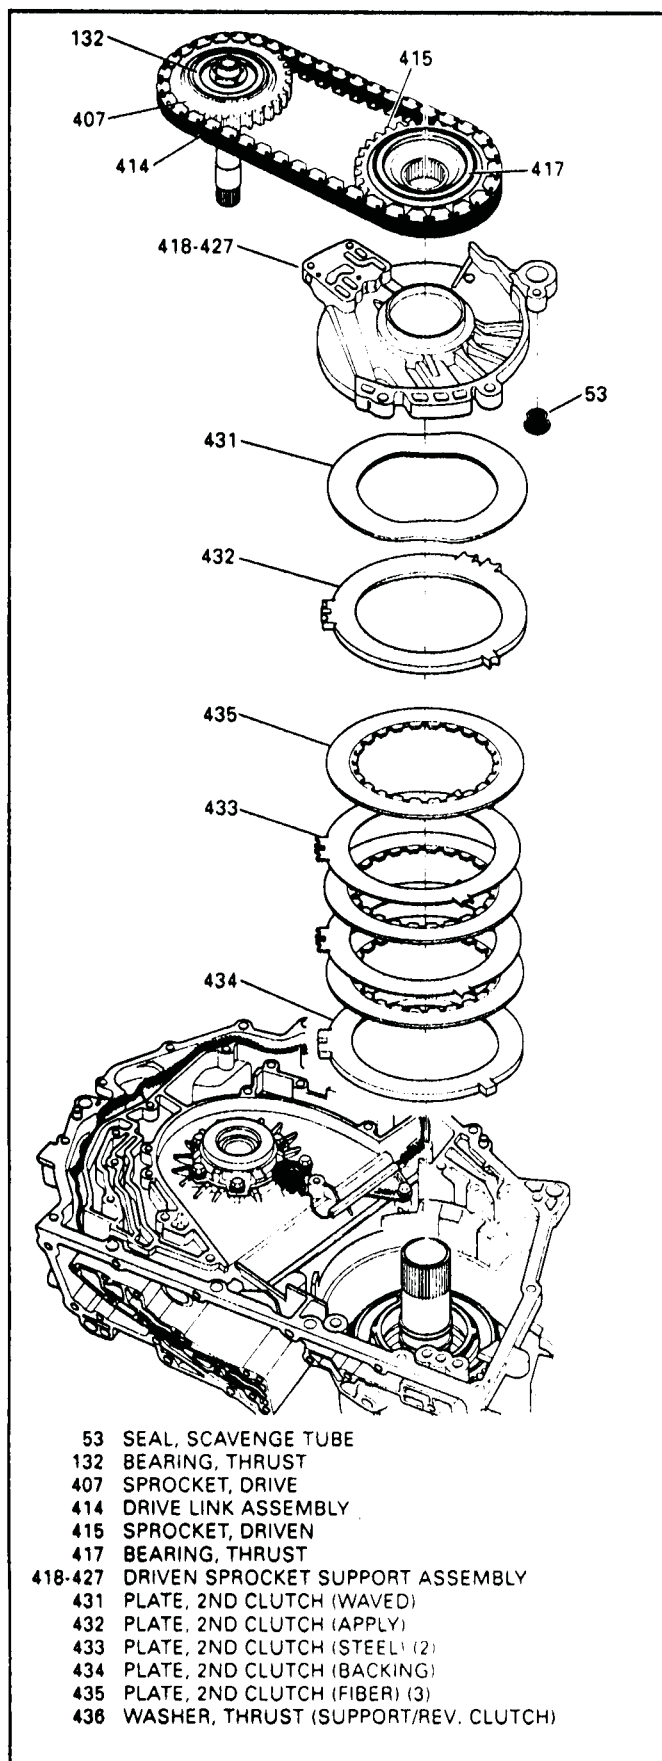

Figure 104
1. Install the 2nd clutch backing plate as shown in Figure 104.
2. Install the 2nd clutch plates starting with a lined plate and alternating with steel plates as shown in Figure 104.
3. Install the 2nd clutch apply plate as shown in Figure 104.
4. Install the 2nd clutch wave plate on top of apply plate (See Figure 104).
5. Install preassembled driven sprocket support over input shaft as shown in Figure 104. Support will be flush with case line surface when fully seated.
6. Attach drive chain to both sprockets in same direction it was removed, as shown in Figure 104. If this is not done noise may result.
7. Install thrust bearings on top of the sprockets (See Figure 104).